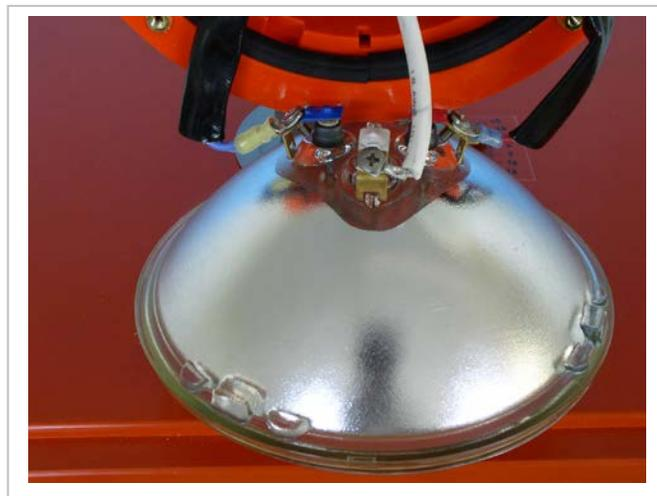

Figure 13b
- Loosen, but go not remove three Phillips head screws securing electrical wires at the back of the lamp (shown in Figure 13b).
Replacement is the reverse of removal, but with attention to wire routing and flash lamp orientation. **Be sure that the wires approach the lamp terminals exactly as shown in Figure 13b!**
It will be necessary to remove the flash lamp from the housing in order to disconnect the white wire (see Figure 13b). The red and blue wires do not have to be disconnected. It is also necessary to remove the rear plate to access the trigger transformer.
- Remove the bezel holding the flash lamp (Figure 13a), and tip the flash lamp out far enough to access the electrode screws on the back of the lamp (Figure 13b).
- At the front of the housing, attach the white wire to the proper lamp terminal taking care to bring the wire to the lamp terminal as shown in Figure 13b.